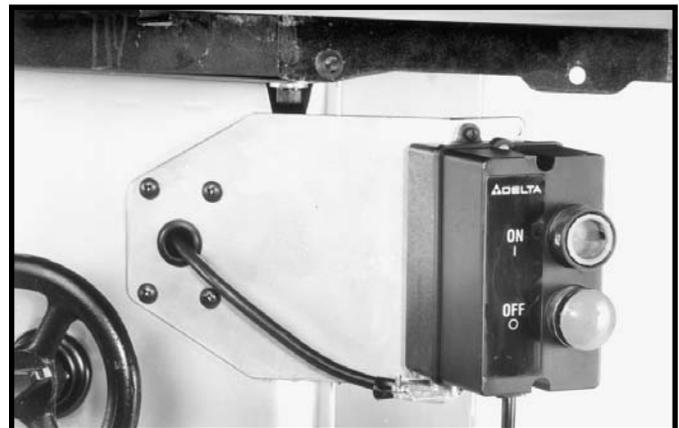

Fig. 13
5. Fig. 13, illustrates on/off switch properly mounted to switch mounting bracket.